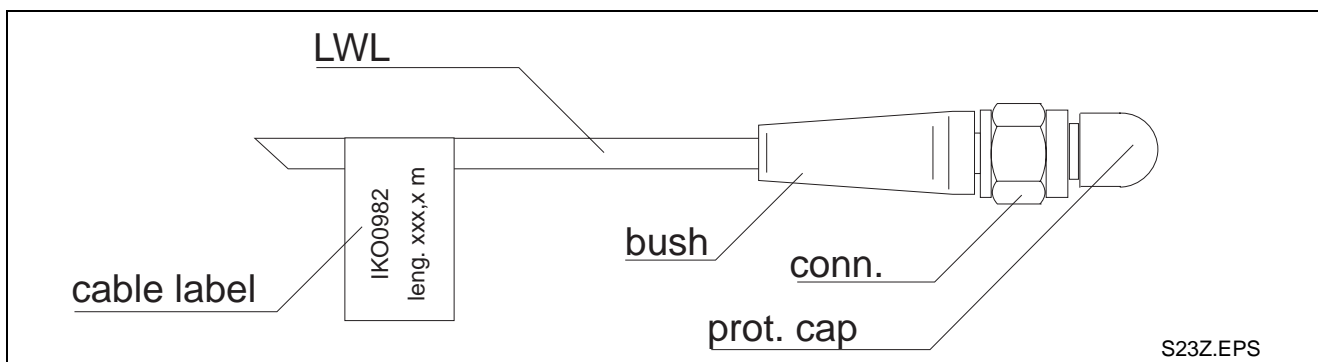

Fig. 7-4: FSMA connector 2.2 mm
- ⇒ Push sleeve onto FSMA connector (sleeve clicks into place, see Fig. 7-4)